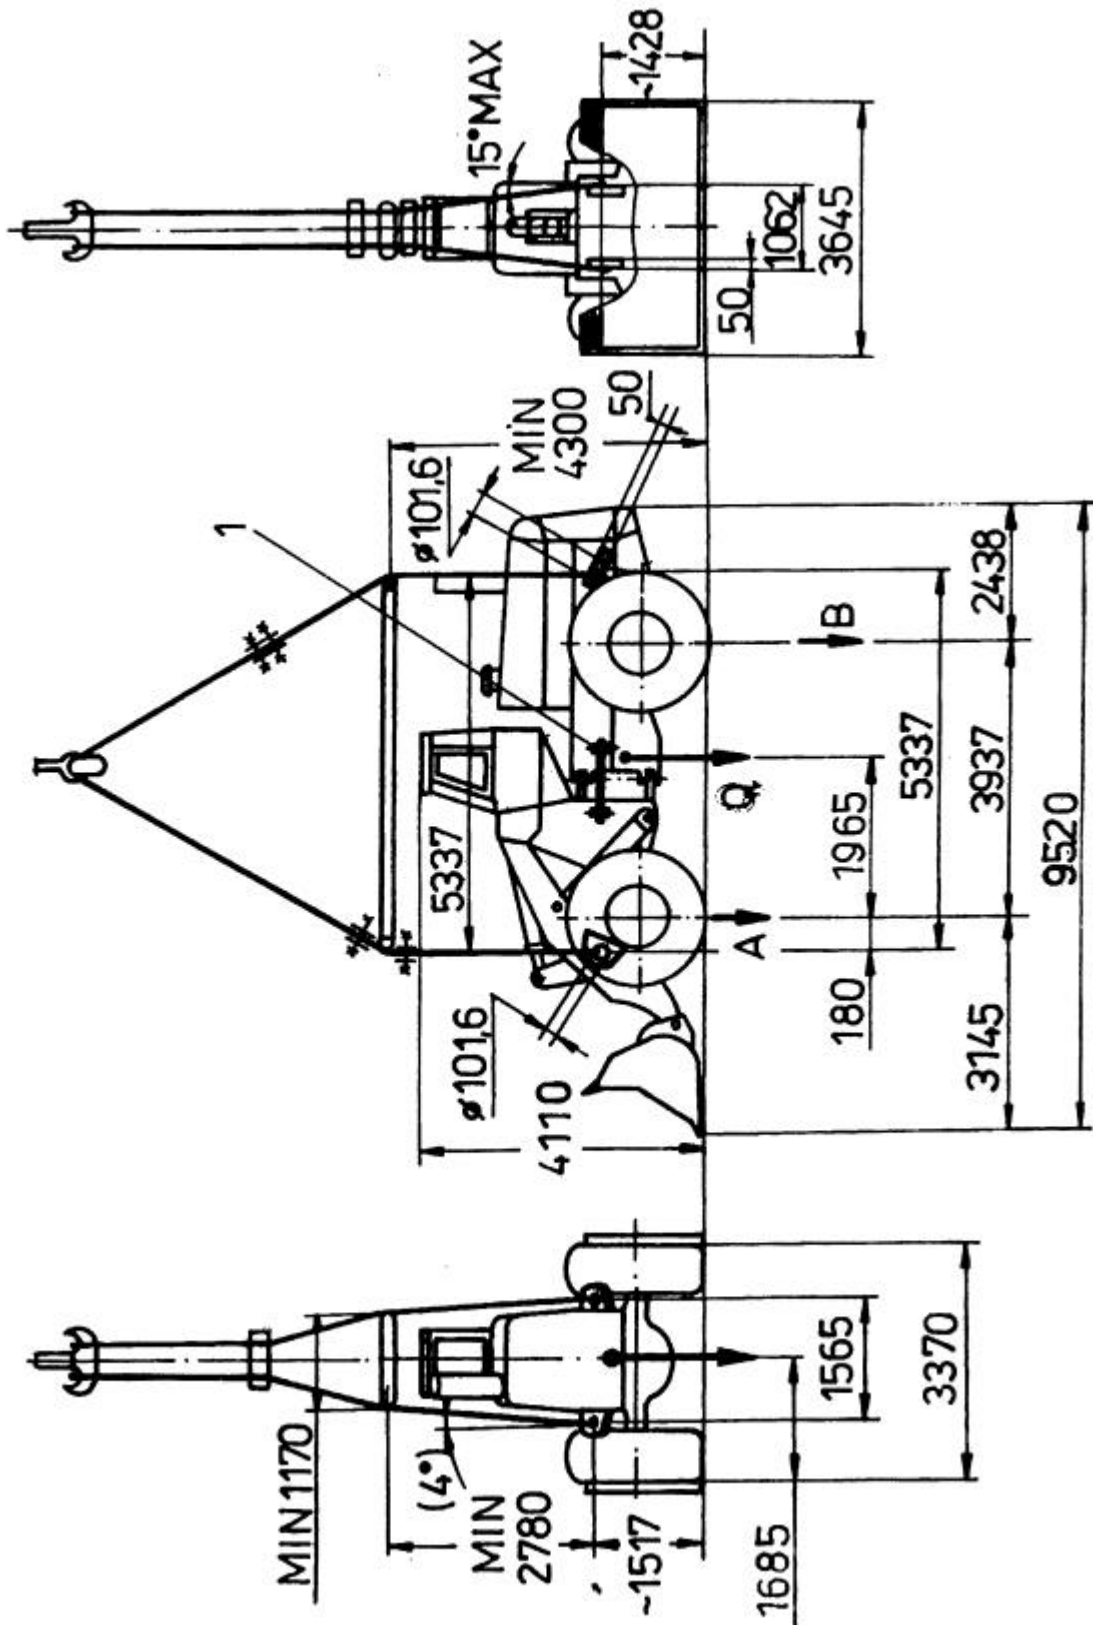

Fig. 3.4. Method of Handling (for standard machine configuration)
2. During transportation by the sea, when it is necessary to carry the loader by means of a crane, use the method of fastening the loader that will ensure maximum safety of persons loading the machine and will not result in damage of the machine. The lifting slings used for fastening the loader should be attached only to special lifting lugs marked with special plates on the machine, refer to Fig. 3.4.